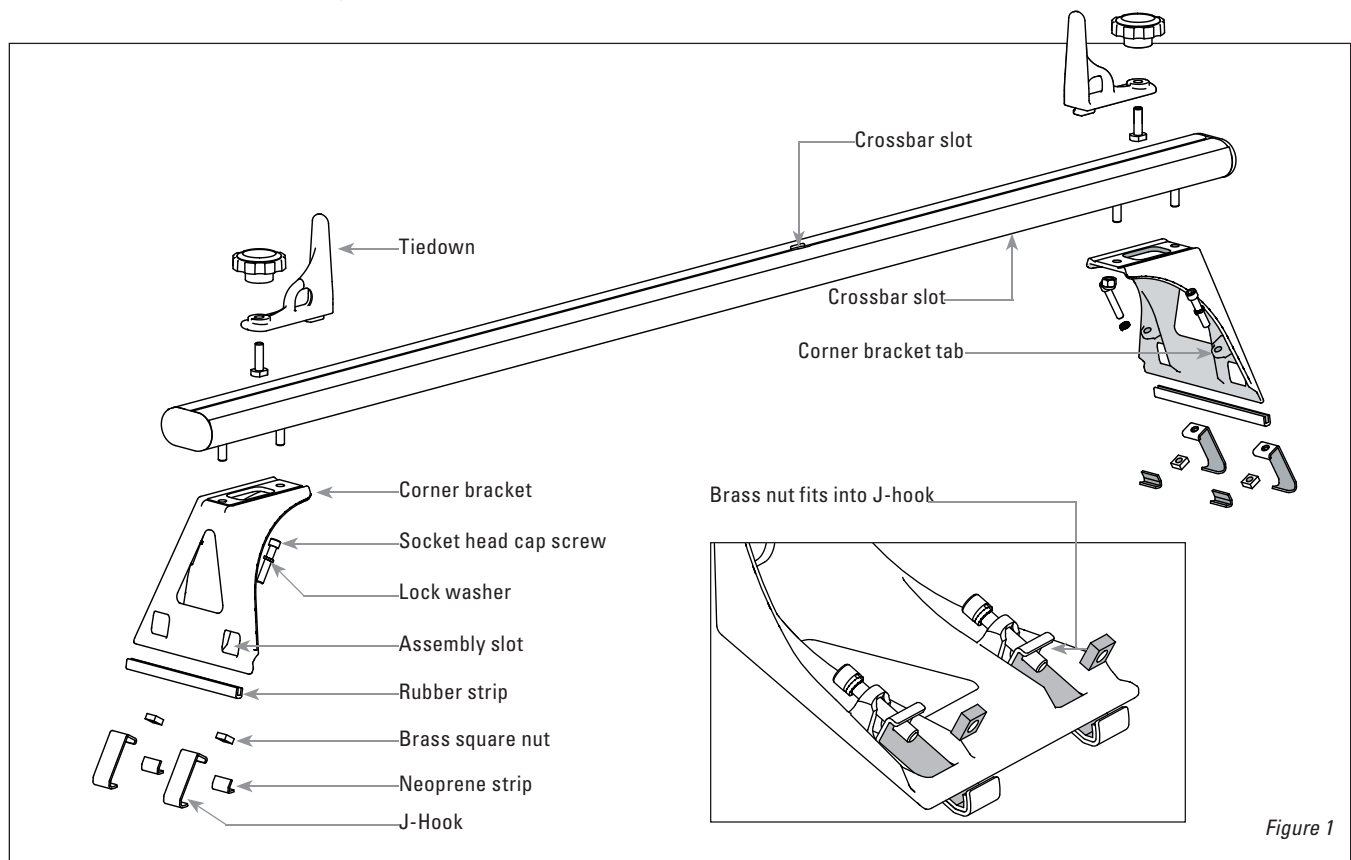

Figure 1
2. Insert 2 (5/16" x 1 3/4" long) Socket Head Cap Screws through the Lock Washers and then into the holes in each Corner Bracket Tab. (See Fig. 1)
3. Insert the J-Hooks with Neoprene Strips through the Assembly Slots at the base of the Corner Bracket. Then insert 2 Brass Nuts into the opening of the J-Hook clips. Thread each screw approx. 1/4 in. into the J-Hook's brass nut. (Do not completely tighten screws) Repeat for each Corner Bracket, (2 hooks for each Bracket). (See Fig. 1)